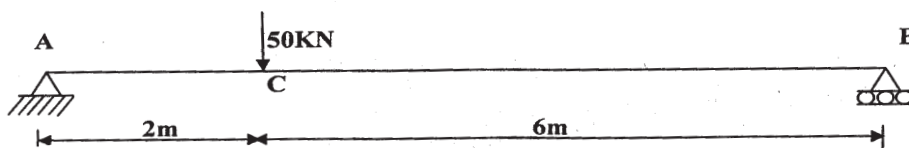

Fig 11 (b)
Q11)a) Analyze the portal frame under lateral loading by cantilever method. The columns are assumed to have equal cross sectional areas. Fig11 (a)[10]
b) The beam is loaded and supported as shown in fig 11 (b). Determine the deflection at the centre of the beam. [8]